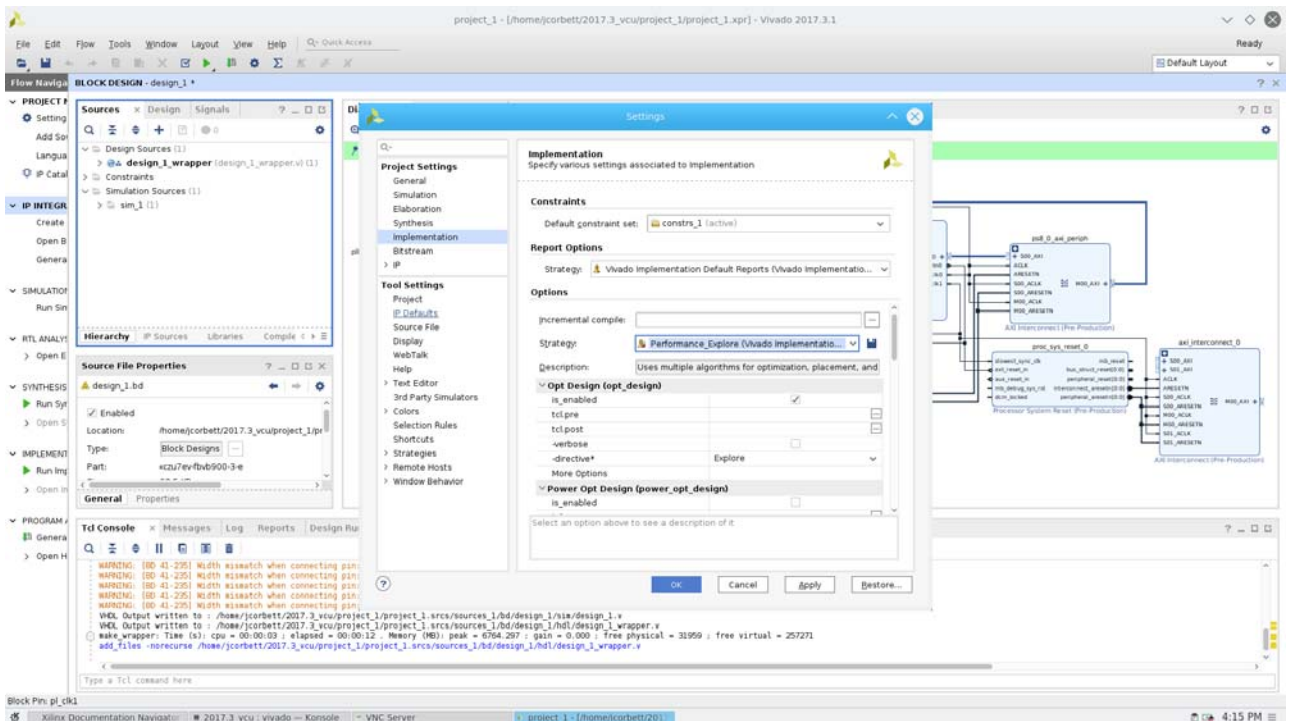

Figure 10-5: Project Settings Tab
4. Click on the **Project Settings** window. Click on the Implementation, as shown in Figure 10-5.